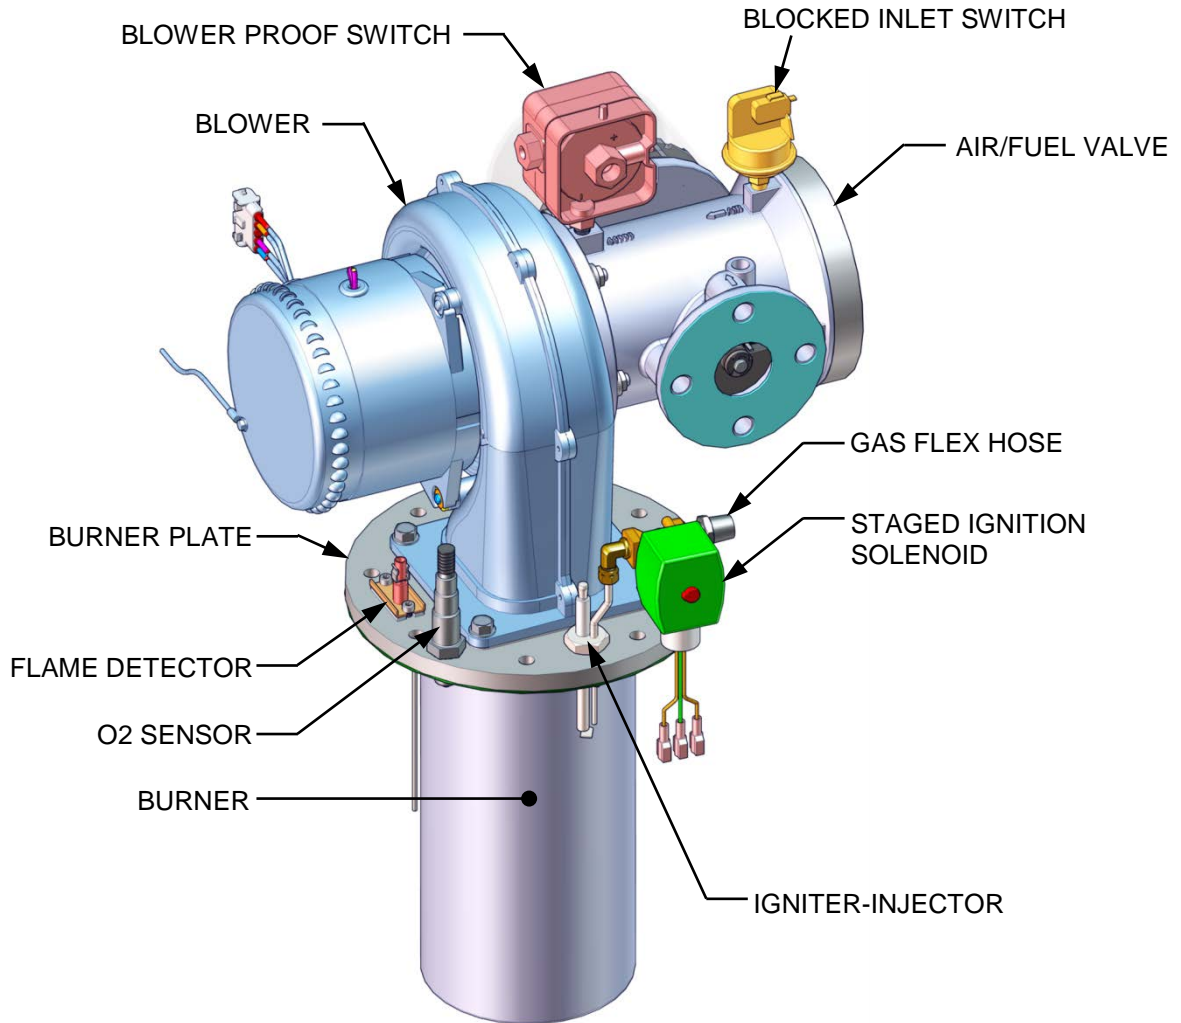
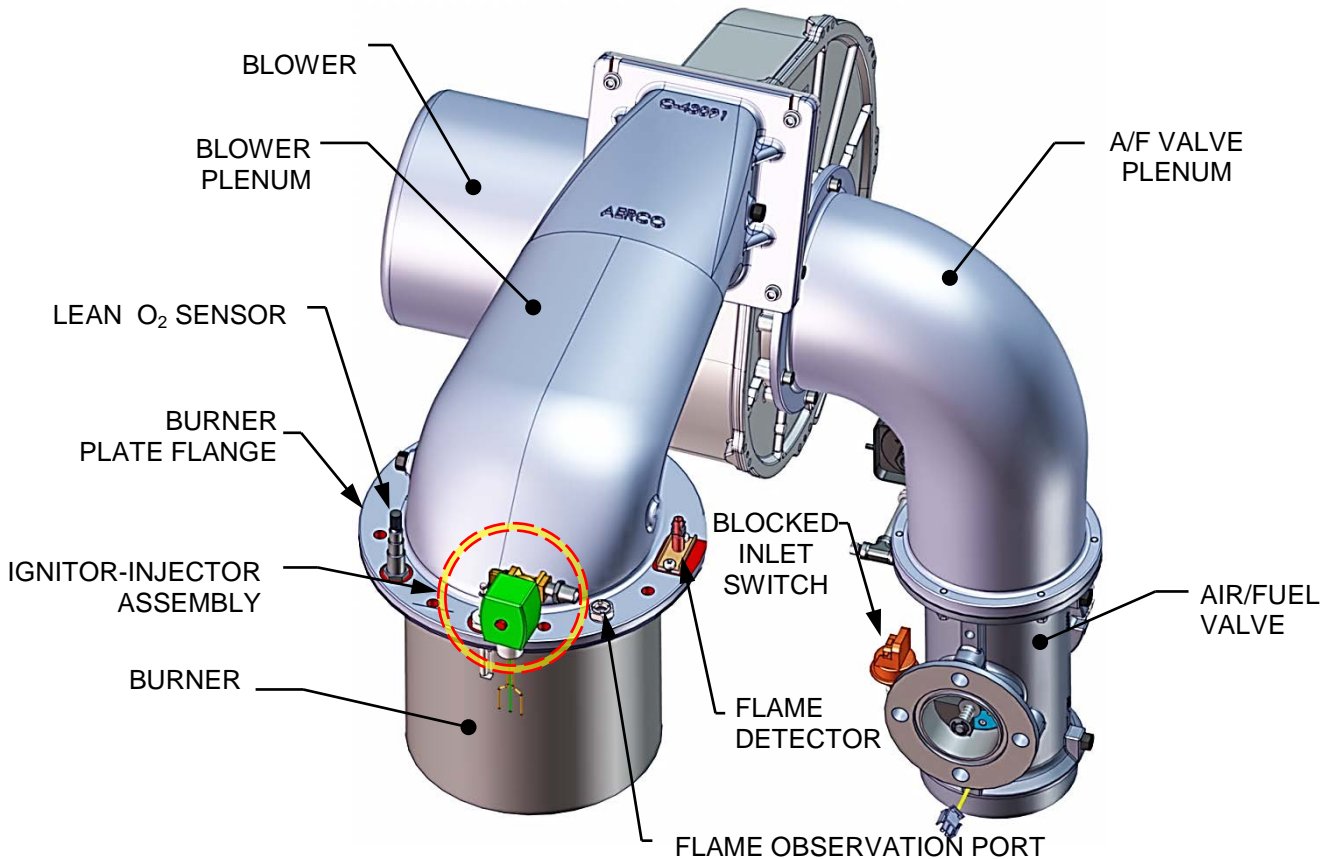
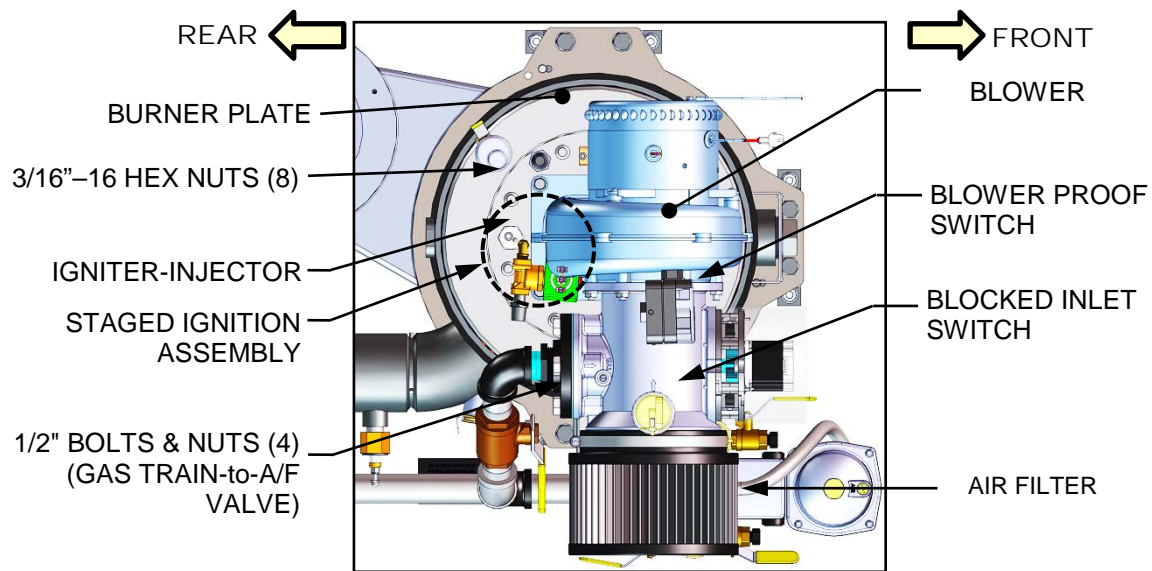
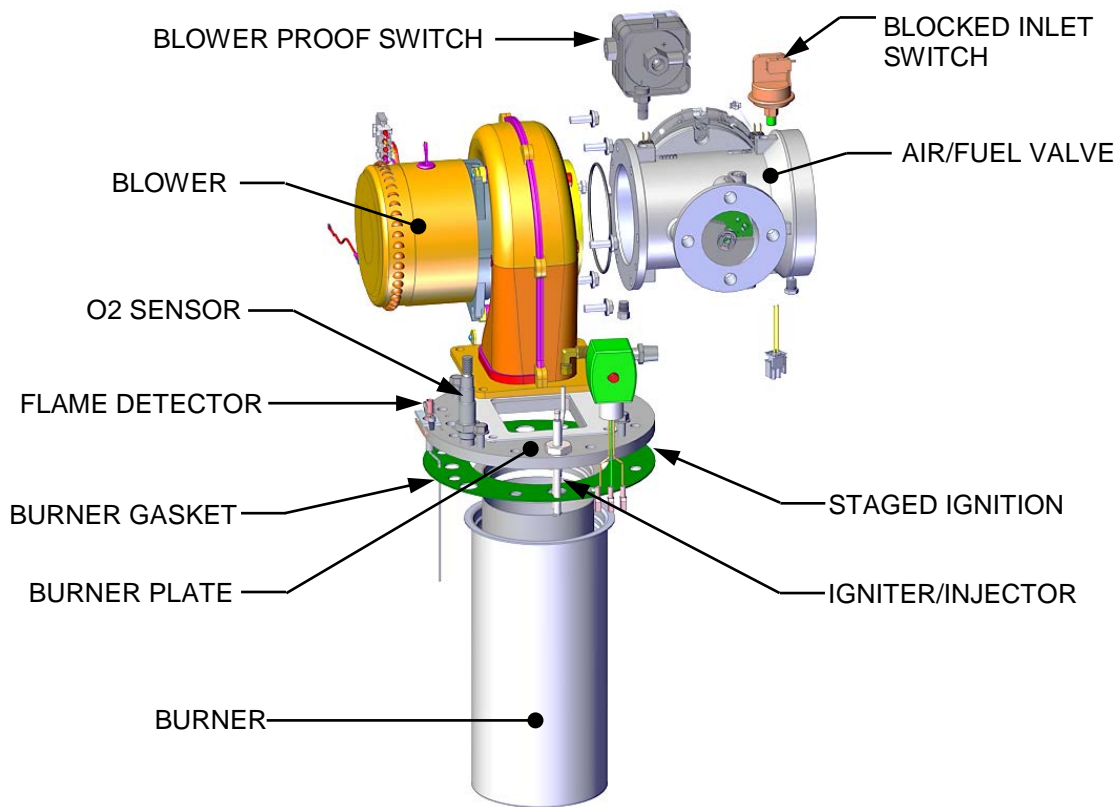

Figure 4-1a: BMK 750/1000 Burner Assembly
Figure 4-1c: BMK 2500/3000 Burner Assembly
Figure 4-4a: BMK 750/1000 Burner Assembly Mounting Details (Overhead View)
Figure 4-4b: BMK 750/1000 Burner Assembly (Exploded View)
The igniter-injector (Kit P/N **58023**) is located on the burner plate at the top of the boiler. In addition to providing the ignition spark required to light the burner, the igniter-injector also contains a gas injector tube which connects to the staged ignition assembly. Figure 4-1a through Figure 4-1c shows the complete burner assembly removed from the boiler and indicates the location of the igniter-injector flame detector and other related components.
2. Remove the top shroud from the unit by grasping the top handle and lifting straight up. This will disengage the shroud from the four (4) pins in the side panels.
3. Disconnect the cable from the igniter-injector (see Figure 4-1a – Figure 4-1c, above).
The flame detector (kit P/N **24356-1**) is located on the burner plate at the top of the unit (see Figure 4-1a through 4-1c and 4-2a through 4-2c). The flame detector may be hot. Allow the unit to cool sufficiently before removing the flame detector. Inspect or replace the flame detector as follows:
The Lean Oxygen Sensor (P/N **61026**) is located on the burner plate at the top of the unit (see Figure 4-1a through 4-1c and 4-2a through 5-2c, below). The sensor may be hot. Allow the unit to cool sufficiently before removing or replacing the O₂ sensor.
3. Disconnect the lead wire from the flame detector installed on the burner plate. See Figure 4-4b.
4. Remove the two (2) screws securing the flame detector to the plate. The flame detector is secured to the burner plate with one (1) #10-32 screw and one (1) #8-32 screw.
7. Using a 7/16" open-end wrench, disconnect the compression nut securing the gas injector tube of the igniter-injector to the elbow of the staged ignition assembly (see Figure 4-1a,). Disconnect the staged ignition assembly from the igniter-injector.
10. Disconnect the wire leads connected to the Blower Proof switch and Blocked Inlet switch (Figure 4-4a and Figure 4-4b).
11. Disconnect the gas train from the air/fuel valve by removing the four (4) 1/2" bolts and nuts (Figure 4-4a).
13. Remove the four 5/16-18 hex head screws securing the blower to the burner plate (Figure 4-4b).
15. Remove the eight (8) 3/8-16 nuts from the burner flange (Figure 4-4a) using a 9/16" wrench.